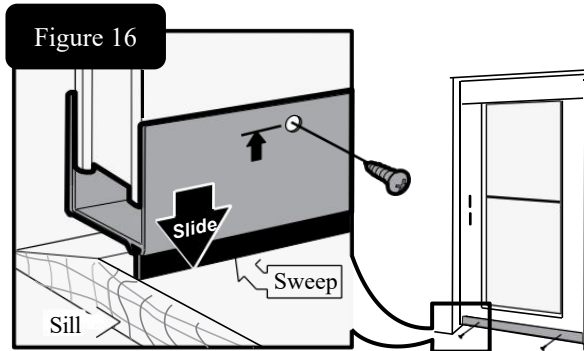

Figure 16
**Step 2:** Adjust the expander until it lightly contacts the sill. (Figure 16)